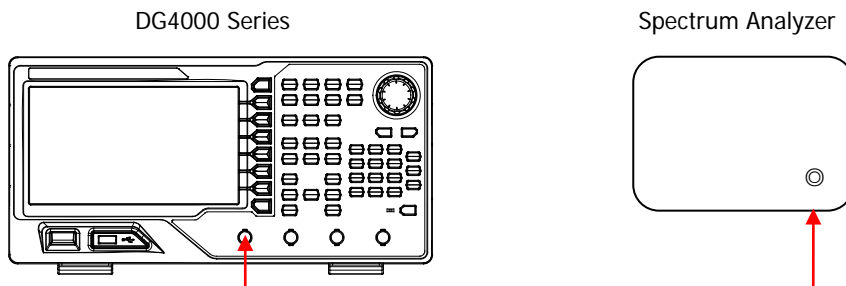

Figure 2-4 Connect DG4000 and Spectrum Analyzer
- Connect CH1 of DG4000 with the RF input terminal of the spectrum analyzer using the dual-BNC cable and N-BNC connector as shown in Figure 2-4. Press **Preset** at the front panel of DG4000 to restore the instrument to its default setting.